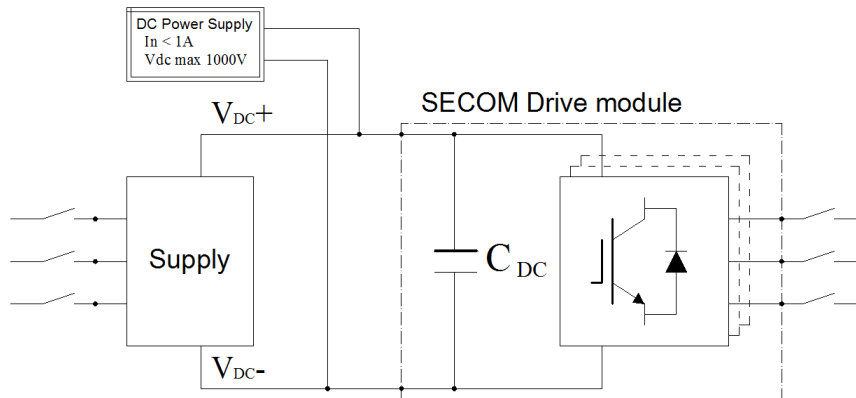

Fig. 5-1: Circuit example for capacitance reforming
Regardless of whether the drive is installed or not, trained personnel have to reach the DC bus bars and connect a power supply as showed in Fig. 5-1 following these instructions:
- Connect a controlled DC power supply⁶ to positive DC bars and negative DC bars: pay attention to the polarity (Fig. 5-1).